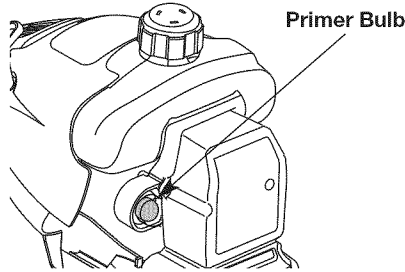

Fig. 7
3. Fully press and release the primer bulb 10 times, slowly. Some amount of fuel should be visible in the primer bulb and fuel lines (Fig. 7). If you can't see fuel in the bulb, press and release the bulb as many times as it takes until you can see fuel in it.